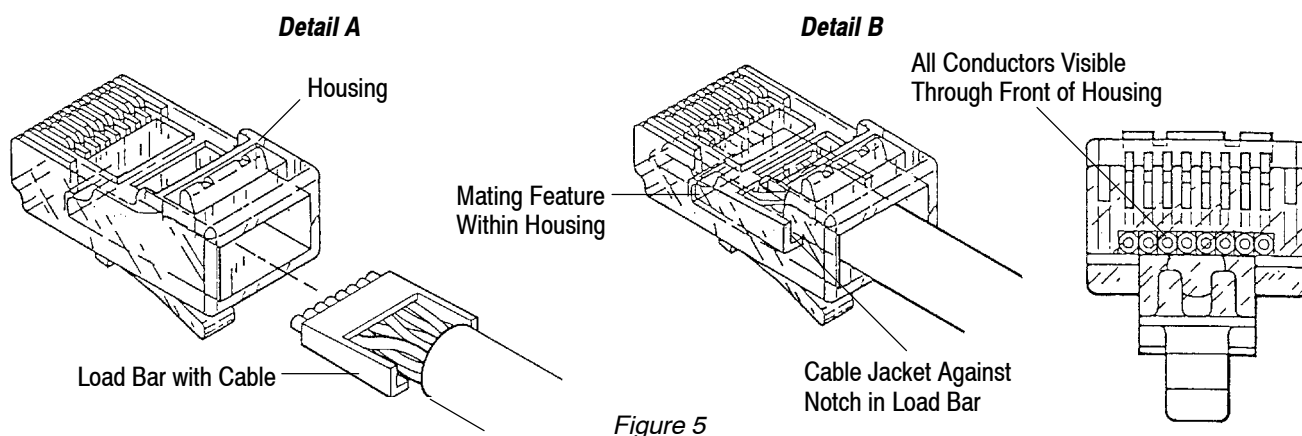

Figure 5
3. The load bar must be fully inserted into the mating feature within the housing of the modular plug. See Figure 5, Detail A. The conductors must be completely inserted and bottomed in the wire circuits and clearly visible through the front of the housing. See Figure 5, Detail B.